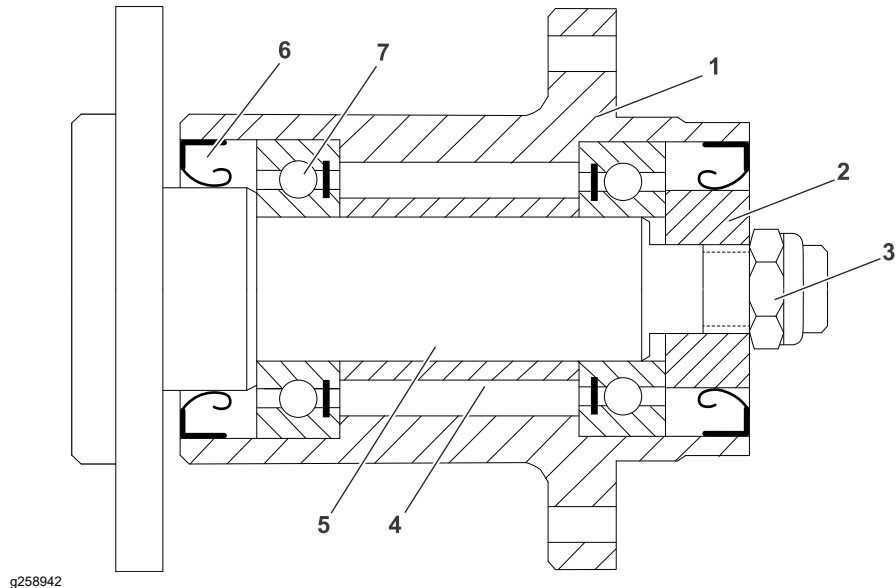

Figure 22
Note: The seal side of each bearing (item 7 in Figure 22) should face inside of the drum hub; refer to Figure 22.
1. Use a press to install the bearings (7) and spacer (8) into the drum hub (10). Pack the bearings with grease. Fill outside space of the bearing with the grease.
2. Apply a coat of grease to the seals (6). Press the seals (6) into the drum hub (1) with its flat side facing outside; refer to Figure 22.
3. Apply grease to the shaft of the drum spindle (5). Carefully slide the drum spindle into the drum hub bearings (7). Secure the drum spindle and drum hub (1) with a spacer (2) and lock nut (3). Make sure that the drum spindle (5) can move axially relative to the drum hub (1).